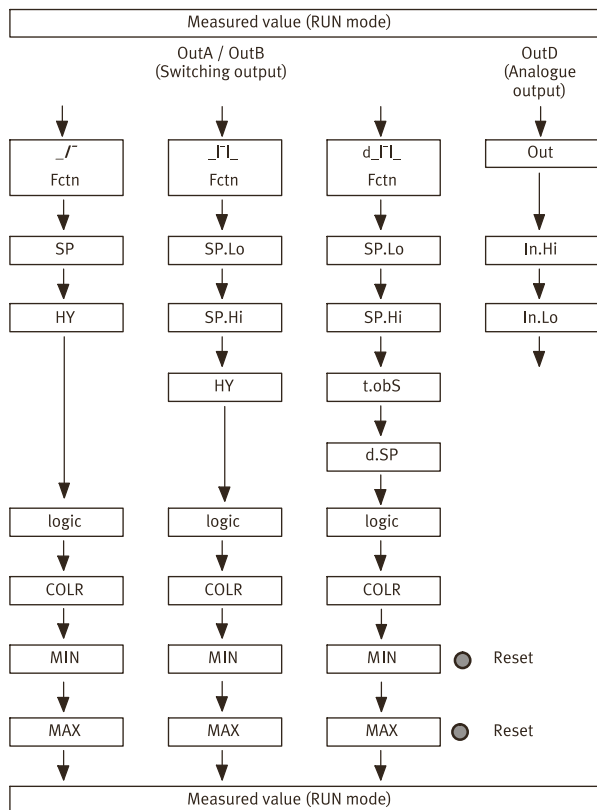

Fig. 5
The following parameters can be displayed by repeatedly pressing the A pushbutton → Fig.5. At the end, the min. and max. values are displayed. This can be reset with the Edit pushbutton.
The following parameters are displayed by repeatedly pressing the B pushbutton → Fig.5.
Legend for → Fig.5
- Repeat points 4 and 5 until all parameters are set → Fig.5.